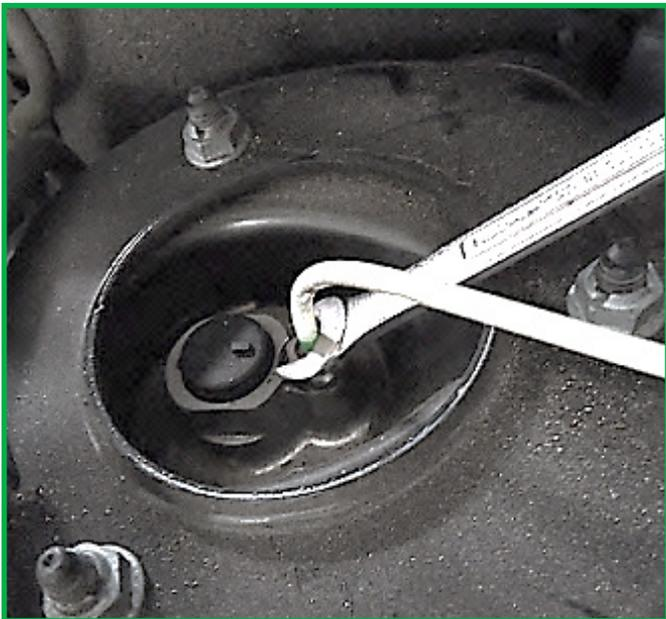

FIGURE 3
3. Remove air line and three (3) upper mount nuts. (Figures 3, 4)